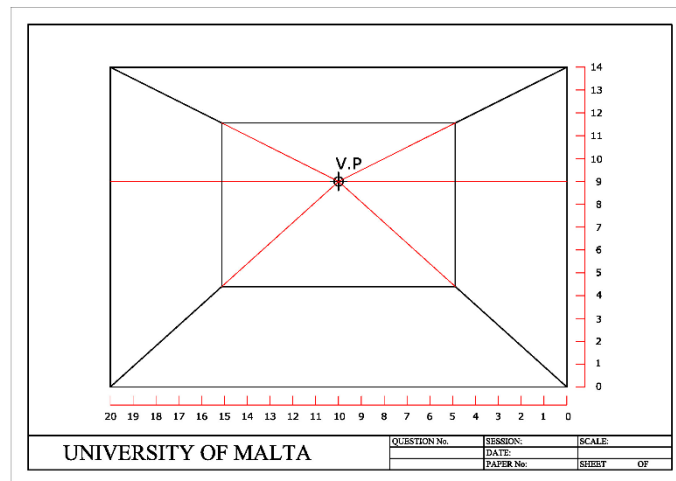

Figure 11d
- a) Use the dimensions given in the orthographic projection to construct an estimated one-point perspective of the room. The viewing direction required is indicated by the arrow in the plan. Use the suggested layout for the one-point perspective shown in Figure 11d. (21)
- b) Render in colour your drawing to enhance its presentation. (3)